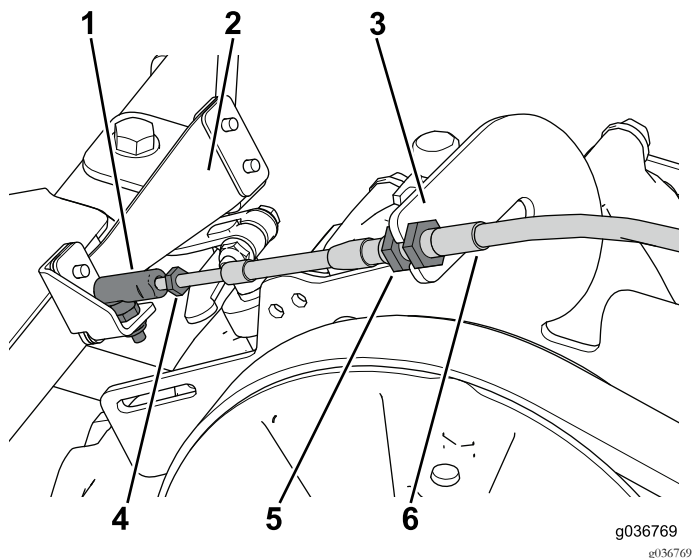

Figure 35
2. Thread the ball-joint assembly onto the shift cable and secure it to the shift-arm assembly (Figure 35).